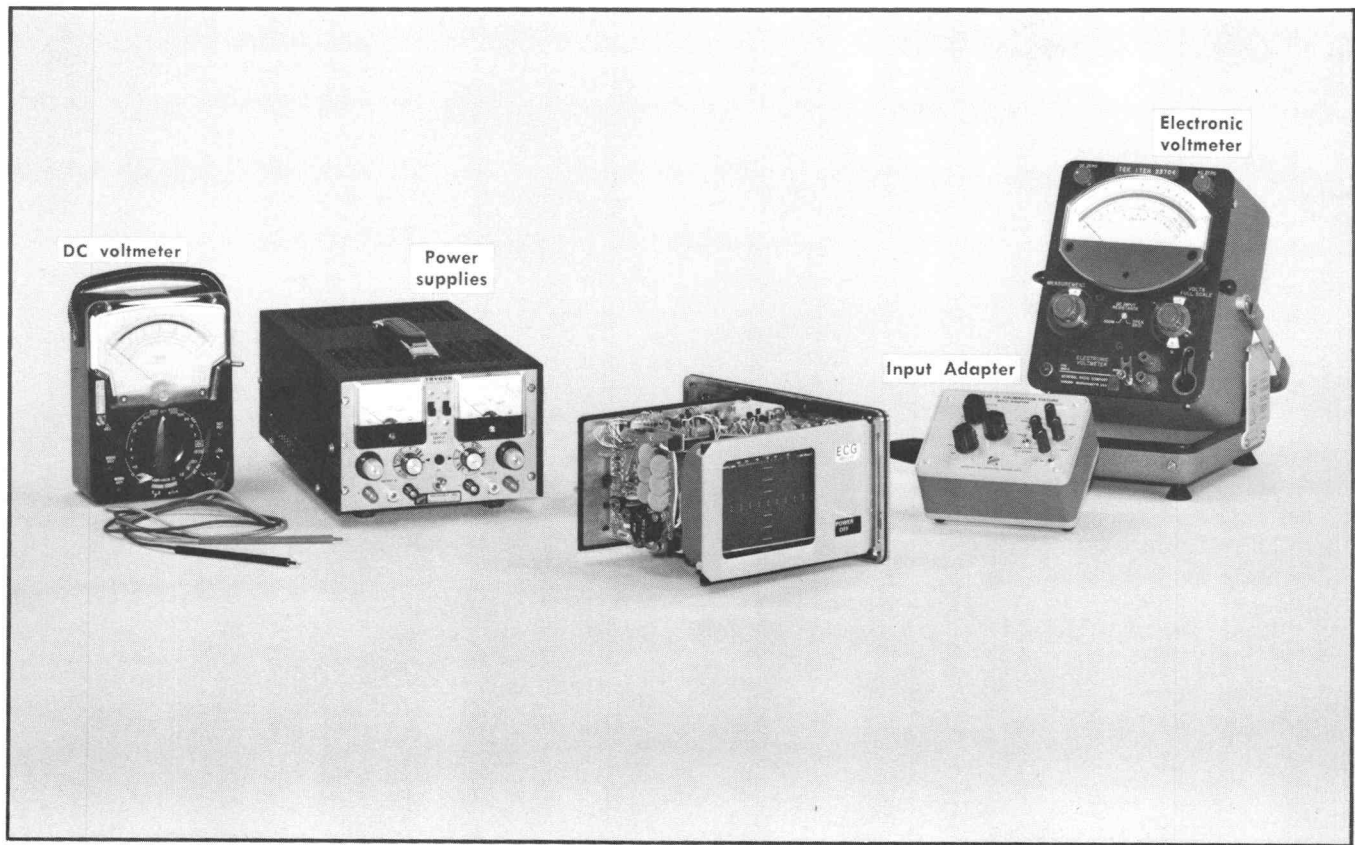

Fig. 6-2. Equipment required for steps 1 through 4.
①
- a. Test equipment setup is shown in Fig. 6-2 and 6-3.